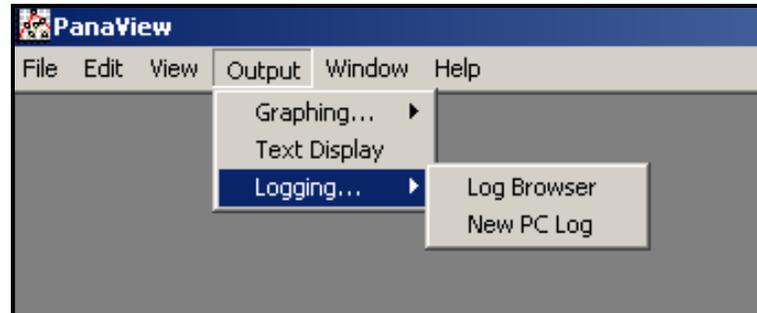
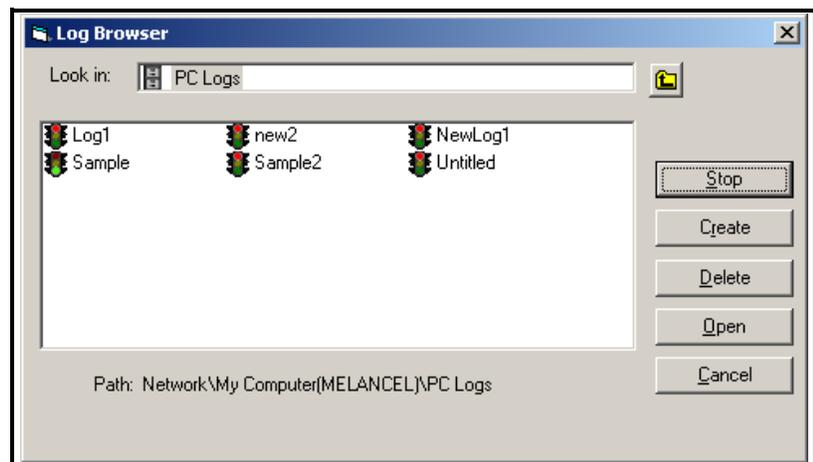

Figure 3-4: Selections in the Logging Option
Figure 3-14: Selecting a Log File from the Log Browser
1. Open the *Output* menu (see Figure 3-4 below), and click on the *Logging* option.
- Pull down the *Output* menu (see Figure 3-4 on page 3-7), and click on the *Log Browser* option. Advance to the *PC Logs* dialog box as described in previous sections. A screen similar to that shown in Figure 3-14 below appears.